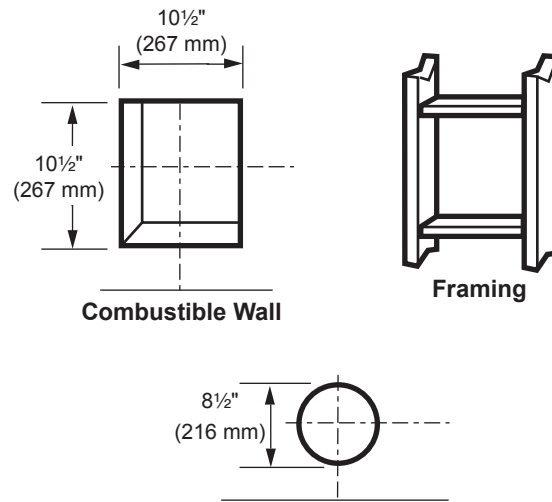

Figure 25 - Exterior Wall Framing Dimensions
- Combustible Exterior Walls:** Cut a 10½"H x 10½" W (267 x 267 mm) square hole through the exterior wall frame. *Figure 25*
- The center of the hole should align with the center line of the horizontal rigid vent pipe end. Allow ¼" minimum rise per foot. *Figure 25*